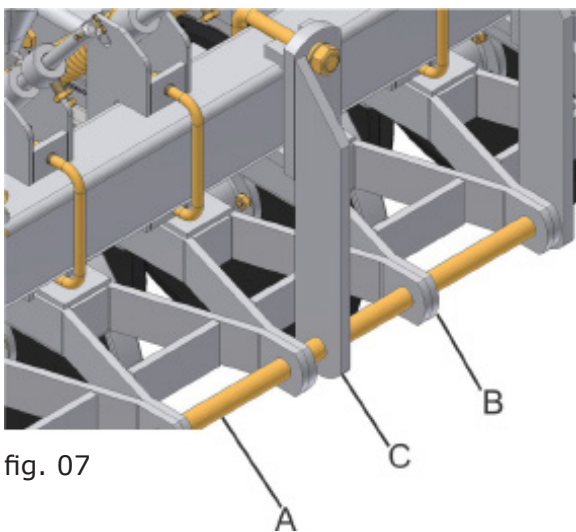
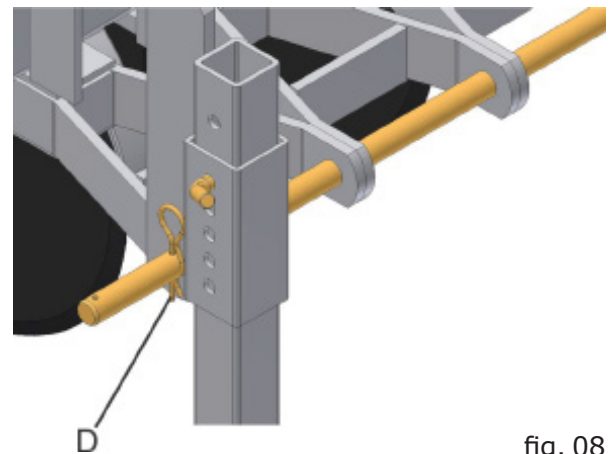
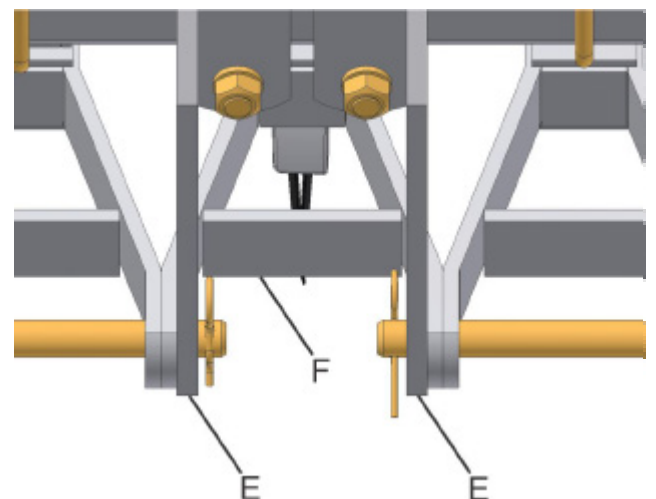

fig. 07
fig. 08
fig. 09
- 4- Insert the fastening shaft (A) (fig.07) of the lines joining them to each other, and the central line (B) shall have a support (C) for fastening the shaft, always being careful that the **lines nearest the wheels are the long lines**, regardless of the model or number of lines which compose the seeder.
- 5- After assembling the lines in the supports, lock the fastening shaft (A) using fasteners "R" (D) (fig.08) at the ends.
- 1- Fasten the two central plates (E) (fig. 09), in the center of the chassis;
- 2- Insert the fastening shaft of the lines (A) (fig. 07), noting the position of the intermediary support (C) (fig. 07);
- 4- Place the central line (F) (fig. 09), aligning the intermediary support (C) (fig. 07), in the line unit;
- 6- After assembling the lines in the supports, lock the fastening shaft (A) (fig. 07), using fasteners "R" (D) (fig. 08) at the ends.
Ensure that the central line of the unit (F) (fig. 09) is centralized in the chassis, by means of metric calibration (tape measure).